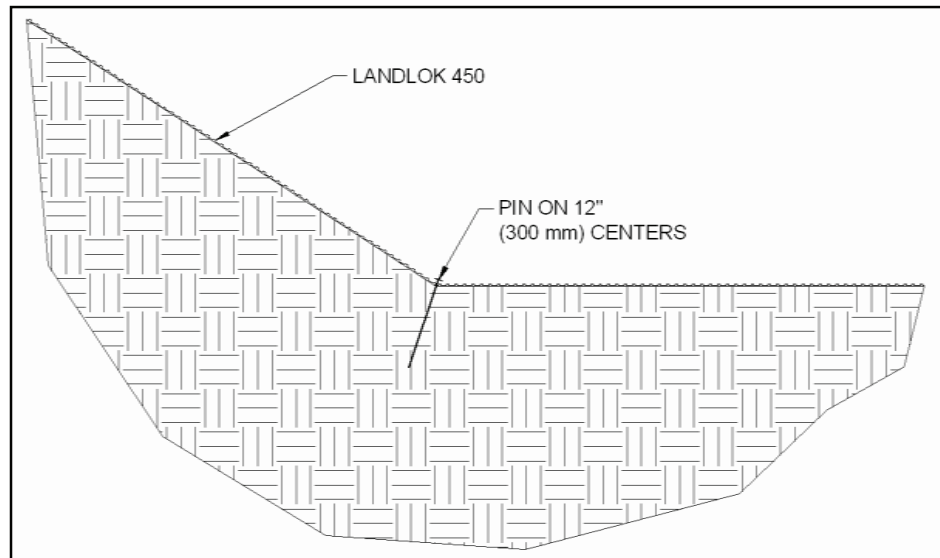

Figure 11: Break in Slope Interface
- At the break in slope interface towards the TOS, it is suggested that pins be installed on 4 ft (1.2 m) centers (Figure 11).